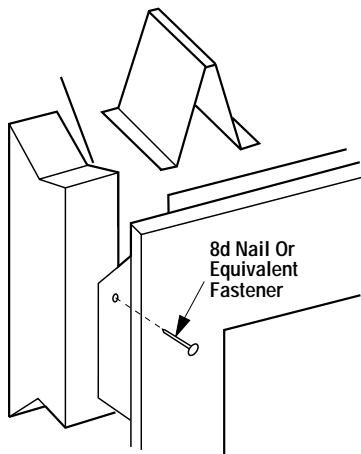

Figure 17
Step 4. Fireplace should be fastened to side framing members using the nailing tabs at the top and bottom of the fireplace front face. Use 8d nails or equivalent (Figure 17).